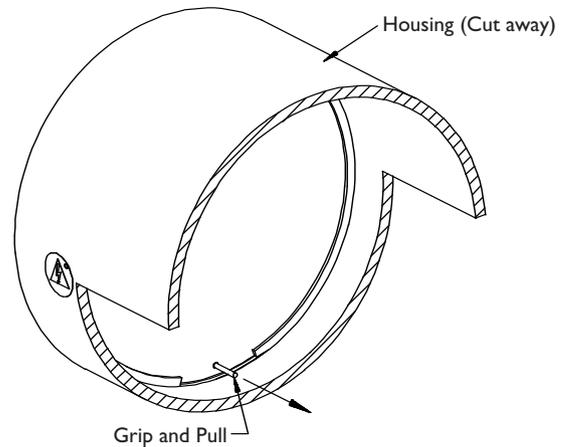

FIGURE 18 Installing the Pull Seal
4. Reach into the housing and grip the pull seal's *long end* from the back of the front face plate. Steadily pull the *long end* until the head of the pull seal is flat against the front of the end cap. See FIGURE 18.